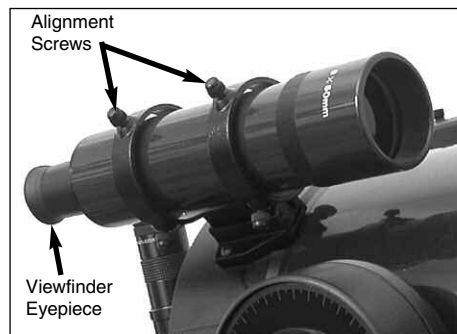

Fig. 7b: Viewfinder Assembly.
5. Look through the viewfinder eyepiece (**Fig. 7b**) and loosen or tighten, as appropriate, one or more of the viewfinder alignment screws (**Fig. 7b**) until the viewfinder crosshairs are precisely centered on the object you previously centered in the telescope eyepiece.